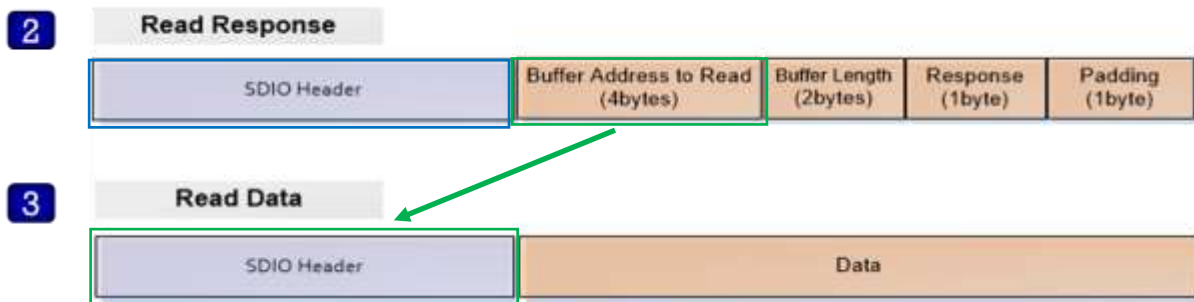

Figure 5: Structure
2. The Host reads the response message from "Response Command" address (0x50080258, blue rectangle in Figure 5), and parse it using "struct \_st\_host\_response". (see Table 4).
3. The Host reads data from address (BUFF\_ADDR) which is received from Slave in the response message. (Green rectangle in Figure 5)